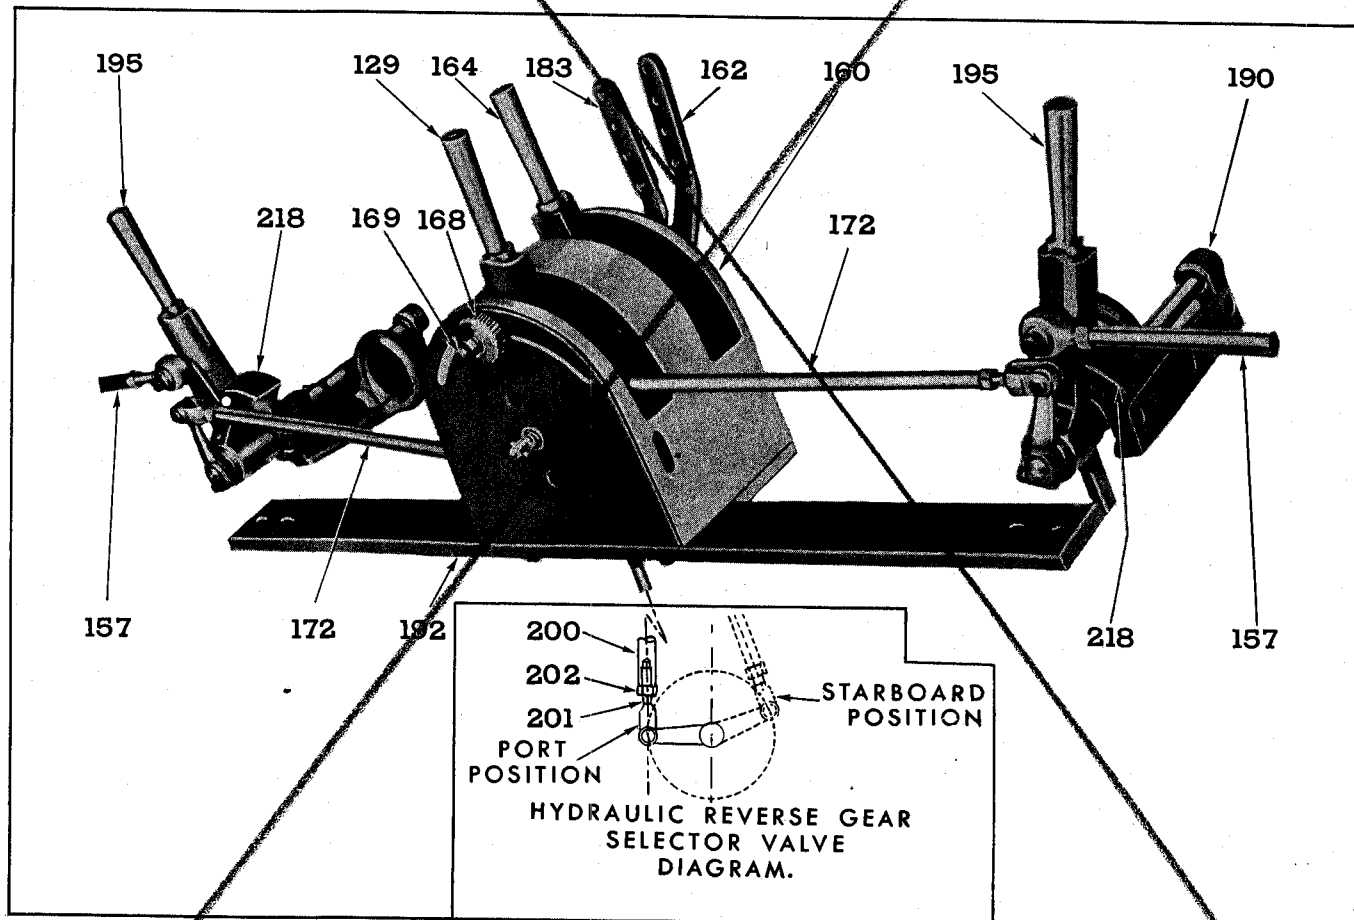
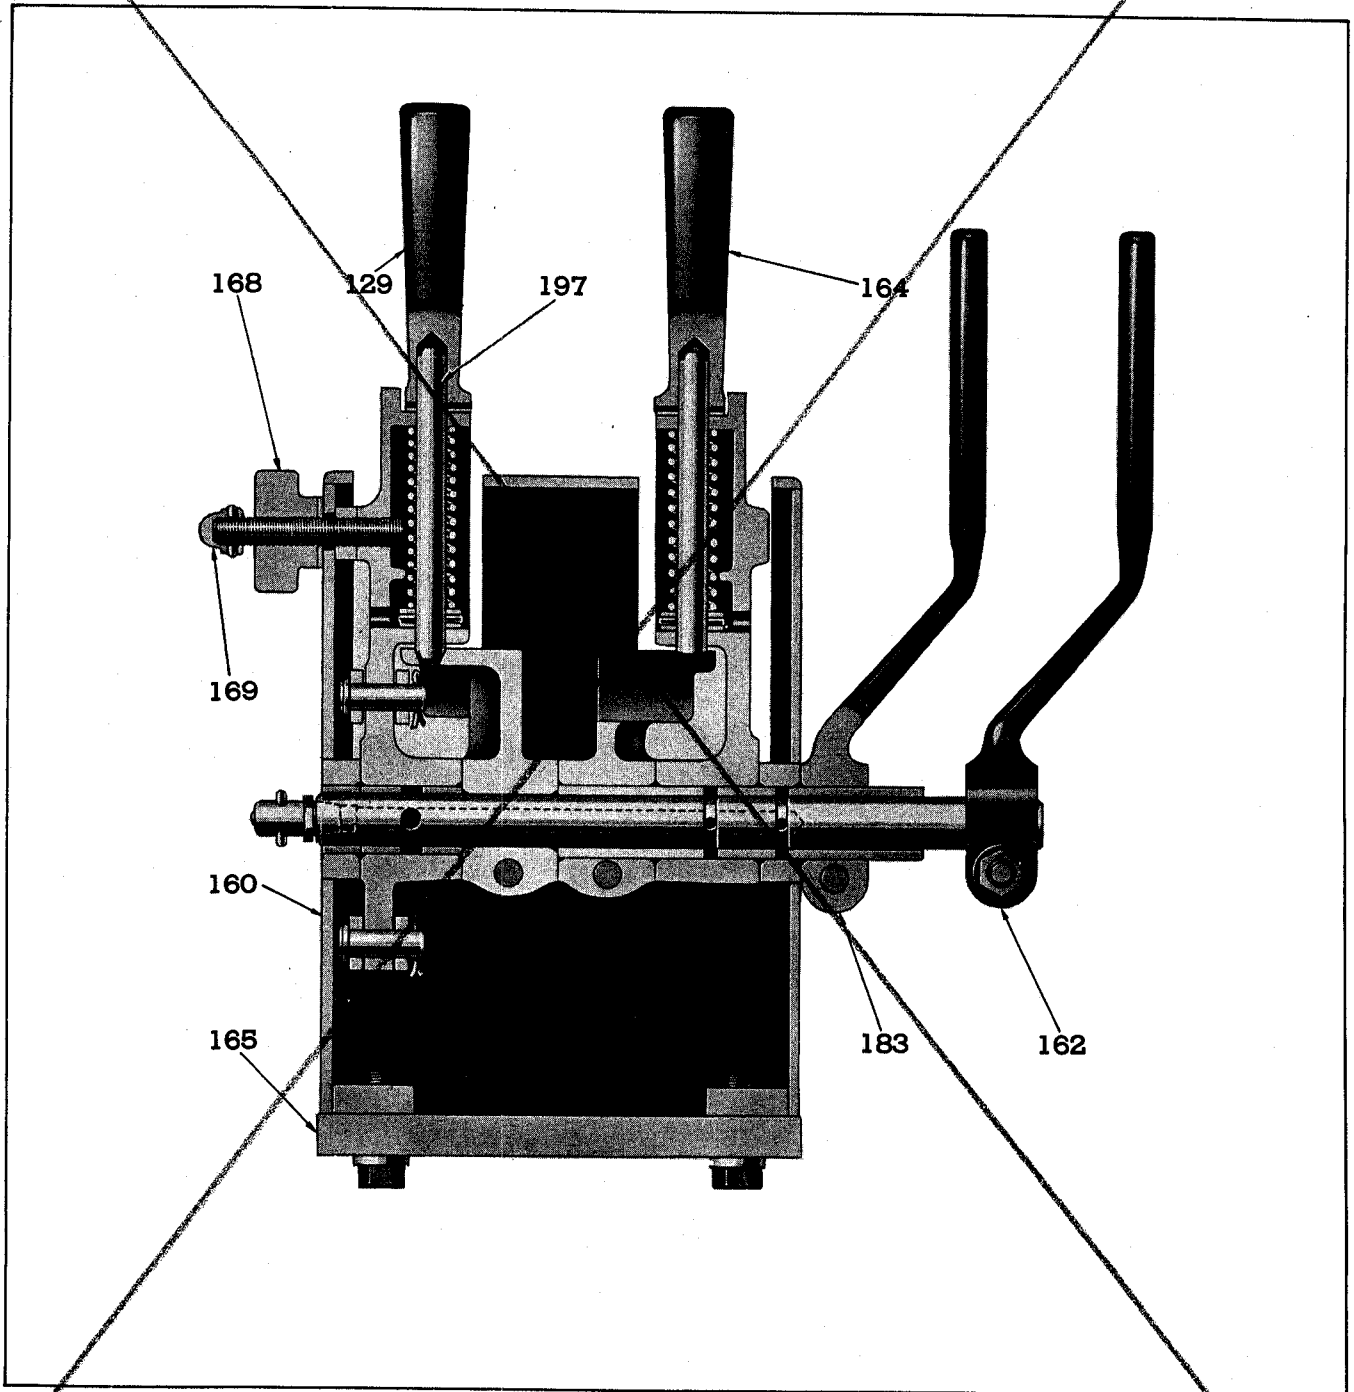

Fig. 23—Arrangement of Throttle Levers on a Tandem Twin Marine Unit.
Fig. 24—Master Throttle Assembly on a Tandem Twin Unit.
Figures 23 and 25 illustrate the arrangement of the throttle and reverse gear controls on Tandem Twin Units, while Figs. 24 and 25 illustrate the master control and individual throttle lever assemblies.
2. Refer to Figs. 24 and 26 and move master throttle lever (129) toward FULL OPEN position until the two clevis pins in the upper and lower arms of the throttle lever shank are in a vertical